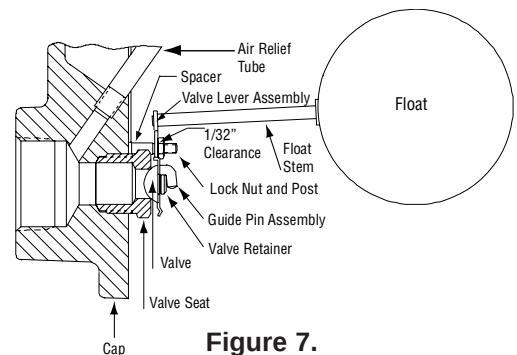

Figure 7.
- F) Hold the valve in the valve seat with the lever's two fulcrum points resting on the face of the valve seat. Using an adjustable wrench, turn the lockout down on its post until there is approximately 1/32" clearance between the nut and the valve lever, which is under the nut. See Figure 7.